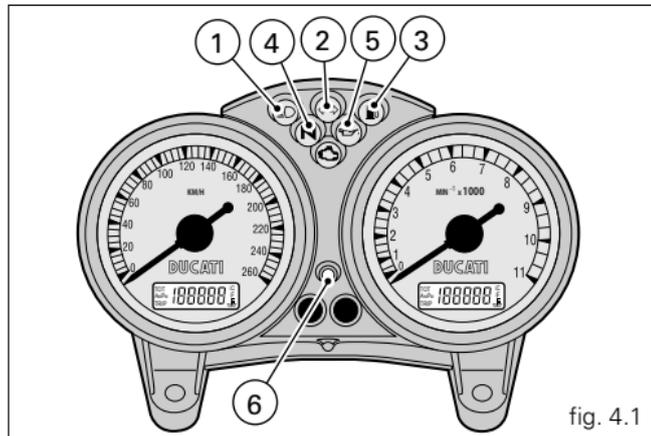
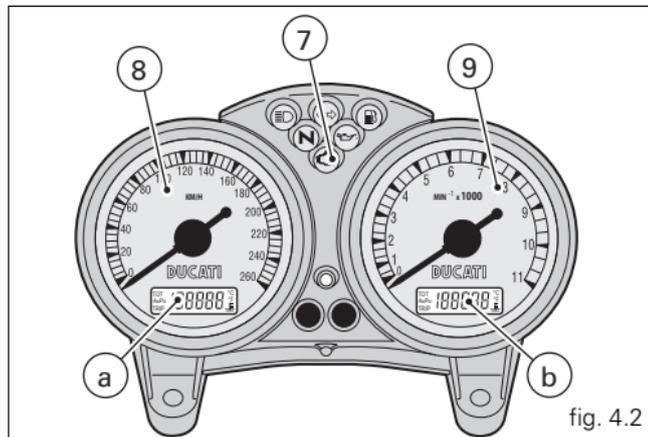

fig. 4.1
fig. 4.2
## Instrument panel (fig. 4.1 and fig. 4.2)
In the event of faults in the immobilizer system, the following procedure makes it possible to disable the "engine lock" function, which is indicated by the yellow-amber EOBd warning light (7, fig. 4.2).
The EOBD warning light (7, fig. 4.1) will go off after the pre-set time of 8 seconds.
- 4) Count the number of flashes of the EOBD (7, fig. 4.1) light equal to the first number of the secret code. Open the throttle twistgrip, keep fully open for 2 seconds, then release. The digit entered is acknowledged, and the EOBD light comes on and stays on for the pre-set time of 4 seconds. Repeat the operation until you have entered the final digit. If no operation is performed with the throttle twistgrip, the EOBD light will flash 20 times and then illuminate steadily. In this case, repeat the procedure from step (1).
- 6) If the code was NOT entered correctly, the EOBD light will remain lit and the procedure can be repeated as many times as necessary by turning the key to OFF, then starting again from step (1).
- 1) if the code is recognised, the warning light (6, fig. 4.1) on the instrument panel will flash briefly. This means that the immobilizer system has recognised the code and disabled the engine lock. When you press the START (2, fig. 13) button, the engine will start up.
- 2) if either the warning light (6, fig. 4.1) or the EOBD light (7, fig. 4.1) remain lit, the code has not been recognized. In this case, turn the ignition key back to OFF and then to ON again. If the engine still does not start, try again with the other black key. If the engine still fails to start, contact your DUCATI Service Centre.
- 3) If the warning light (6, fig. 4.1) keeps flashing, it means that an error signal from the immobilizer system has been cleared (e.g. with the override procedure using the throttle twistgrip). Turn the key to OFF and back to ON; the immobilizer light should return to its normal state (see step 1).